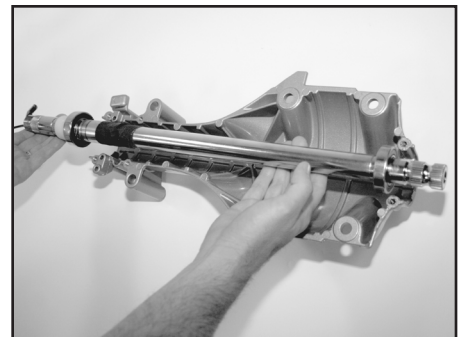

Figure 2
8. Remove the shaft and bearing assembly from the aluminum die cast housing. Figure 2